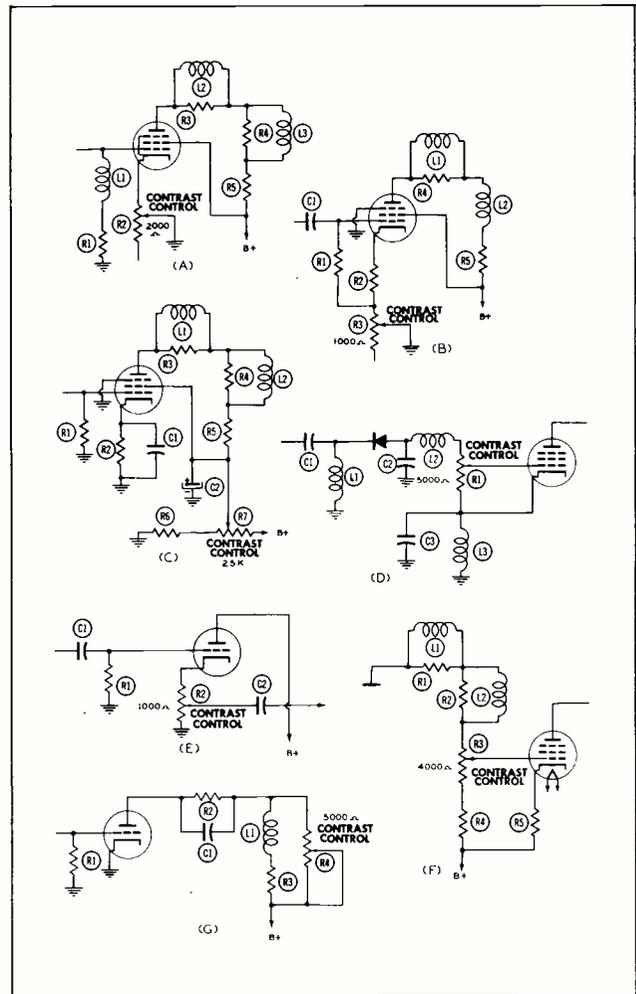

Figure 4-14. (A-G) Various Types of Contrast Control Circuits.
Circuit A of Figure 4-14 employs a contrast circuit which varies the bias of the stage. When the arm of the contrast is moved to the top, no voltage is developed across the contrast control. At this setting maximum gain is realized in the stage. When the arm is moved to the bottom the voltage developed across the control increases the bias of the stage which reduces the gain. This is the simplest of control circuits and is used quite frequently.
The circuit B of Figure 4-14 combines items 1 and 2 above as a means of varying the gain of the stage. The grid resistor R1 is returned to the bottom end of the cathode resistor R2. Thus the voltage developed across R2 is the bias for the stage. The contrast control R3 is added in the cathode circuit. As the arm of the control is varied, the voltage across R3 will vary. Any voltage developed across R3 produces the same results that would be obtained if the B plus supply were lowered, since the difference voltage between the lower end of the cathode resistor and B plus is lessened. This type of circuit provides very smooth control over the full range and is also used in many receivers.
Another method for varying the B plus supply voltage is shown in circuit C of Figure 4-14. In this circuit the contrast control, in series with appropriate resistance, is placed across the B plus supply voltage. The plate and screen returns are then connected to the arm of the control. As the control is varied, the gain of the stage will also vary because the supply voltage will be increased or decreased depending on the setting of the control. Due to the fact that all the tube current plus the bleeder current flows through the control, this type circuit places additional requirements on the power handling capabilities of the control and as a result is used only occasionally.
Two other contrast control circuits employing this principle are given in E and F of Figure 4-14. The contrast control of circuit E is in the cathode circuit of a cathode follower which was added in the circuit to provide a point where the low resistance, uncompensated control can be used. In addition to the added cost of the extra stage, another disadvantage lies in the fact that care must be taken in the design of such a circuit to prevent overloading. The contrast control of circuit F in Figure 4-14 is placed in the plate circuit of the first video amplifier. The amount of signal input to the next stage is governed by the setting of the control. The control in this circuit is also a low resistance, uncompensated unit.
Circuit G of Figure 4-14 is probably the least used of all. The contrast control, R4, shunts a portion of the plate load of the video amplifier stage. With the arm of the control at the top, no signal is deve-